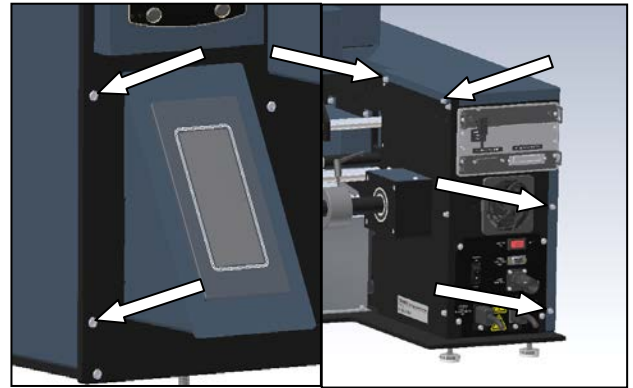

Figure 3-76. Frame Cover Screws
1. Remove the six Frame Cover screws (Figure 3-76).